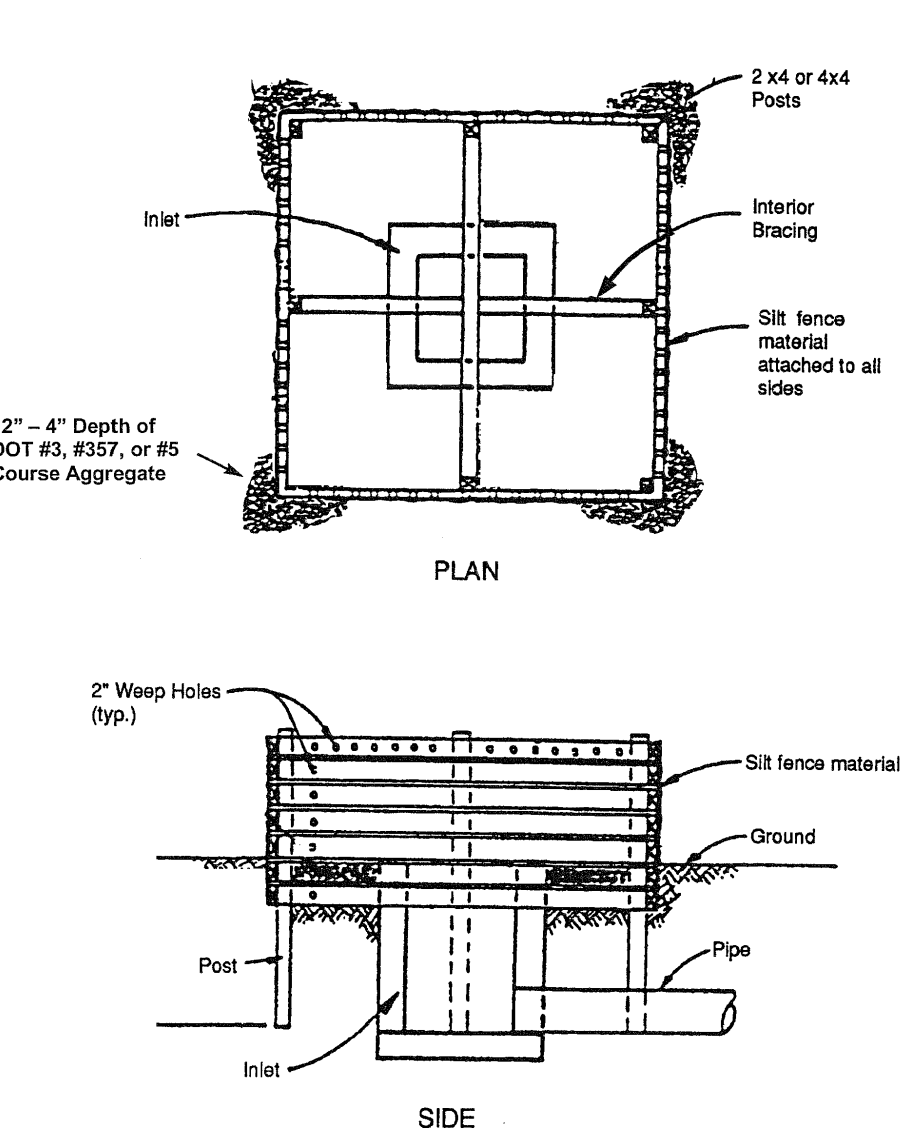

Figure 2
**Baffle Box Inlet Protection - IP-BB** This method is applicable for inlets receiving runoff with a higher volume or velocity. As shown in Figure 2, the baffle box should be constructed of 2" x 4" or 4" x 4" boards spaced a maximum of 1 inch apart or of plywood with weep holes 2 inches in diameter. The weep holes should be placed approximately 6 inches on center vertically and horizontally. The entire box is wrapped in Type C filter fabric that should be entrenched 12 inches and backfilled. Refer to Silt Fence - SF for installation requirements.